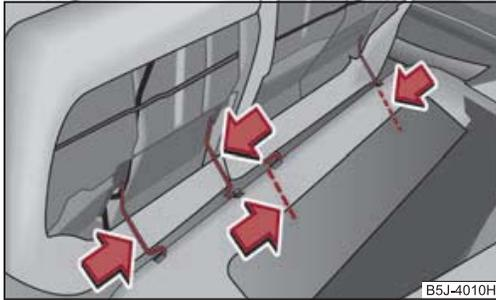

Fig. 56 Removing seat squabs
- Press the wire clamps in the direction of the arrow ⇒ fig. 56 and remove the seat cushion from its holder.